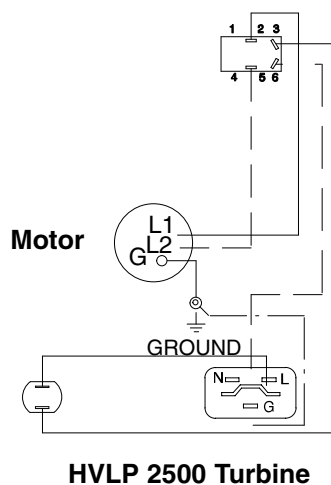
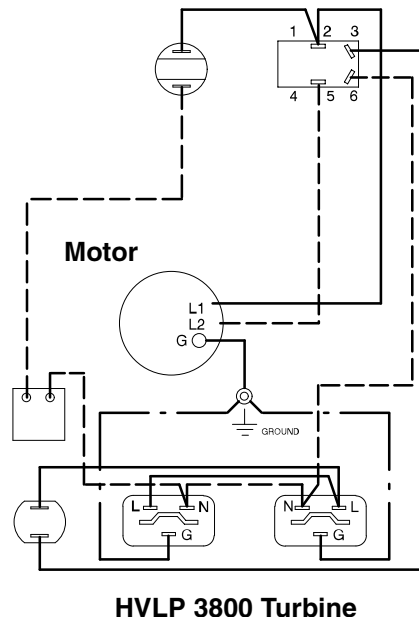

Fig. 11
Fig. 12
2. Remove turbine gasket (25).
3. Remove 3 screws (6).
4. Remove plate (82) and 3 spacers (83).
6. Rotate turbine (24) from outlet fitting (18) and lift up from turbine spacers (23).
10. Reconnect wires according to applicable turbine. See Fig. 11, Fig. 12, or Fig. 13 schematics.